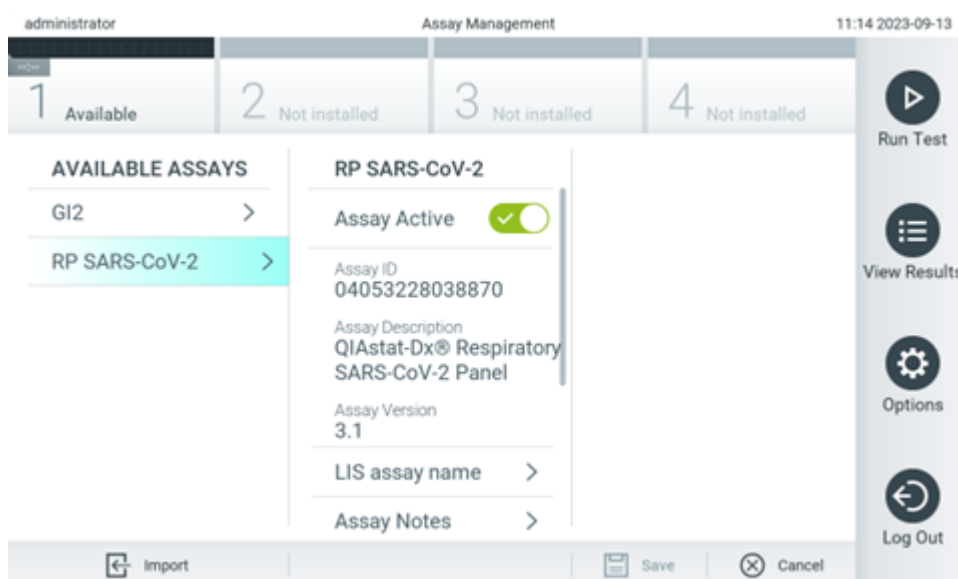

Figure 59. Activating the assay.
6. Select **Assay Active** to enable activation of the assay (Figure 59).